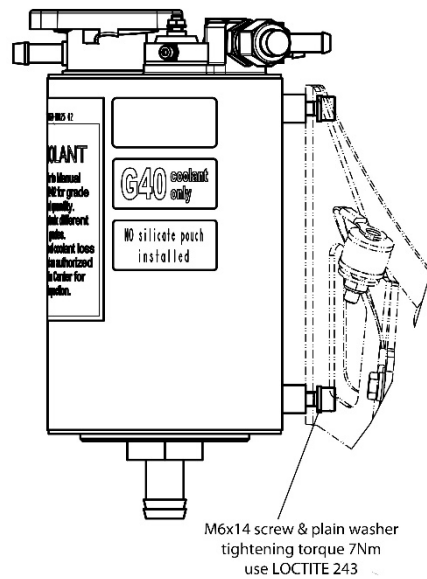
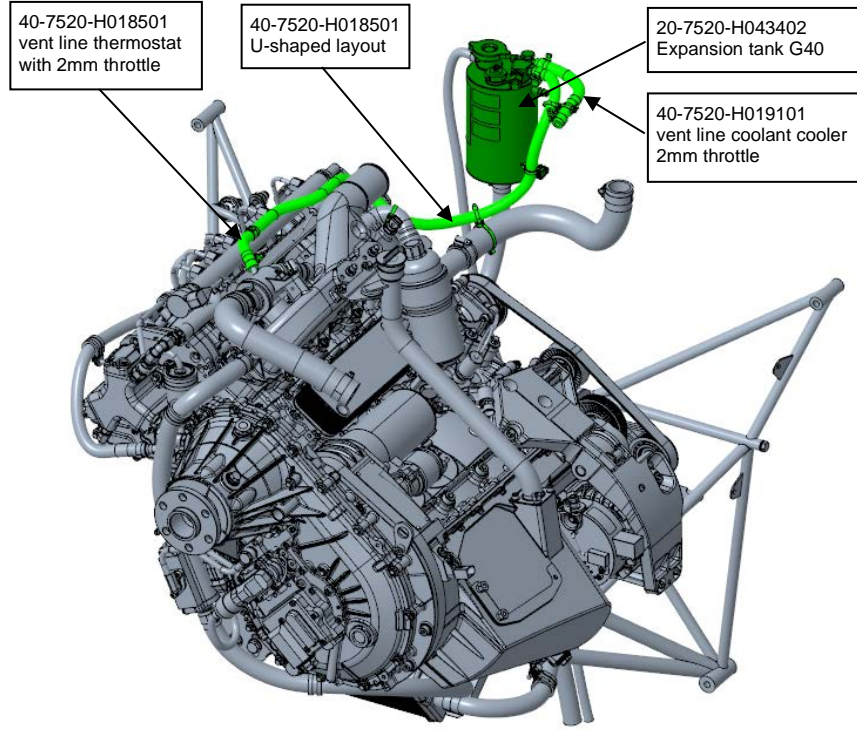

Figure 2: Expansion tank installation
Figure 3: Overview TAE 125-02-114 installation
- a) Install the expansion tank (item 2), reuse the attaching parts. Refer to figure 2 for detailed information.
- b) If necessary, install the coolant hose (item 3) between the thermostat and the radiator using two hose clamps (item 6).
- c) Install the radiator vent line (item 4) between the main radiator and the expansion tank using two clamps (item 5). Attach the vent line to the banjo-bolt connector of the expansion tank. Ensure that the arrow labelled on the vent line points towards the expansion tank.
- d) Attach the vent line (item 1) to the thermostat using a clamp (item 5). The throttle, integrated in the vent line, must be located on thermostat side and the arrow labelled on the vent line must point towards the expansion tank. Refer to figure 3.
- e) Route the thermostat vent line towards the expansion tank while ensuring a U-shaped layout (*lowest point below the expansion tank bottom*). Refer to figure 3.